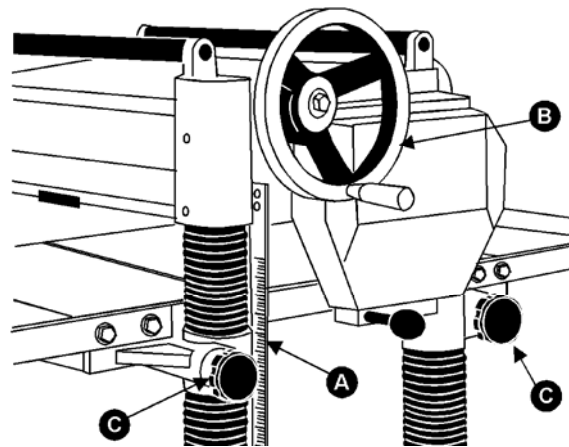
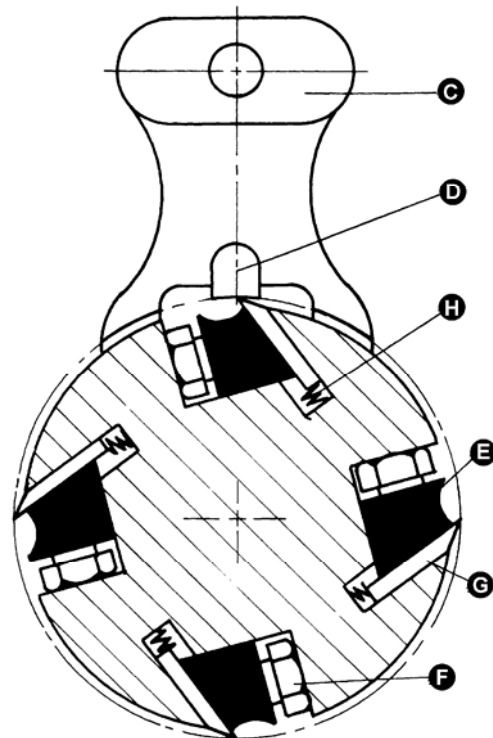

Figure 16
Figure 19
The cutting depth scale (A, Fig. 16) is a combination inch/metric scale with a cutting range from 0 to 8" (204mm). The distance of upward or downward movement is controlled by the handwheel (B, Fig. 16). One revolution of the handwheel is .059" (1.5mm). Before moving the table up or down, loosen the lock nuts (C, Fig. 16). After obtaining the proper table position, tighten the lock nuts (C, Fig. 16).
3. To check and adjust knives, use the provided knife gauge (Fig. 19 & 20) and check all four knives. Knives should just contact the bottom of the center protrusion (D, Fig. 19) of the knife gauge.
4. If an adjustment to one or more of the knives is necessary, slightly loosen the knife gib (E, Fig. 19) by turning the six locking screws (F, Fig. 19) into the gib. Turn the screws just enough to relieve stress in the cutterhead without disturbing the setting of the knives. Do this for all four knives at the same time.
5. With the gauge in place over a knife (G, Fig. 19) continue to loosen the locking screws (F, Fig. 19) until the springs (H, Fig. 19) begin raising the knife. When knife comes into contact with the center protrusion (D, Fig. 19) of the gauge, snug up the gib by
lightly backing out the six locking screws (F, Fig. 19) against the slot. NOTE: At this time, only tighten the knife in the slot just enough to hold knife in position.
7. After all four knives are set with screws just snug, back out and tighten the six locking screws (F, Fig. 19 & 20), against the slot starting with the end screws first, then the center screws, until the knife is securely held in the cutterhead. Tighten remaining three knives in the same manner.
3. To remove knife, loosen the gib (E, Fig. 19) by turning the six locking screws (F, Fig. 19) into the gib. Remove gib (E, Fig. 19), knife (G, Fig. 16) and springs (H, Fig. 19). NOTE: The inner two springs may pop out when the knife and gib are removed.
8. Place knife gauge (C, Fig. 19) over knife.
9. While holding down on the knife gauge, loosen all six locking screws (F) by turning them into the gib (E) until cutting edge of knife comes into contact with the protrusion (D) of the gauge. Snug up the gib by slightly backing out the six locking screws against the slot.